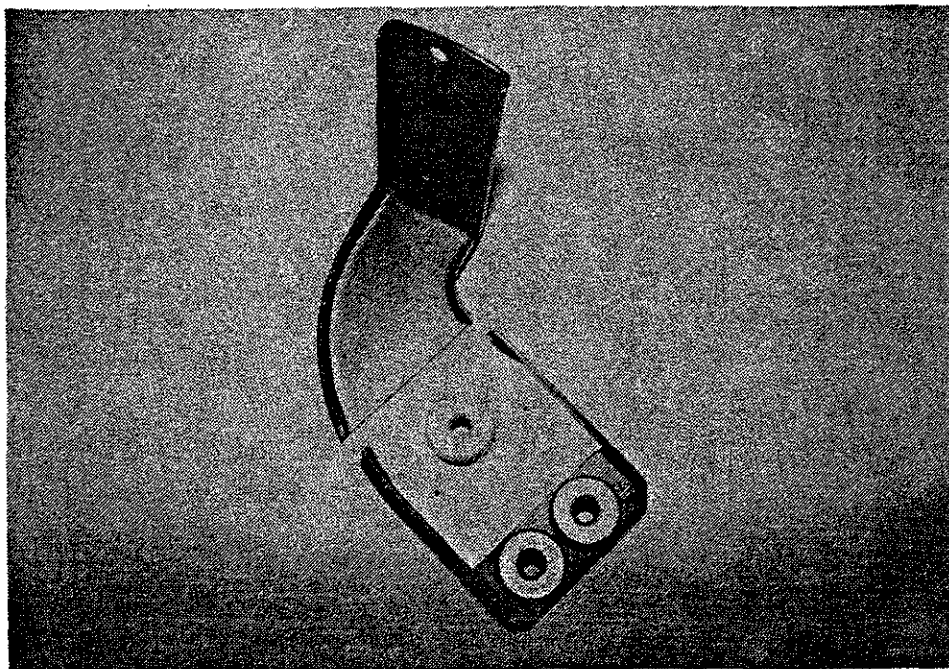

FIGURE 14
23. Using the supplied Template (P/N 48203), center the two Mounting Bolt holes, and scribe the line to be cut on the stock MAF Bracket. Remove the Template. Drill out the two center punched holes to $21/64$ " and cut the Bracket along the scribed mark as shown in Figure 14.